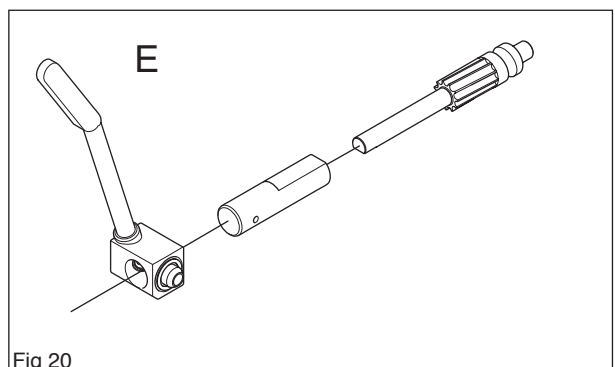

Fig 20
The oil pump (E) is not adjustable. (see figure 20)